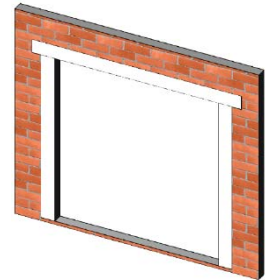

Figure 32:
2. At each jamb, embed the flashing paper into the sealant onto mounting flange and fasten into place. The flashing paper should be cut sufficiently long enough to extend at least 3 in. past the weep-screed or diado flashing and at least 6 inches above the head of the window (Figure 32).